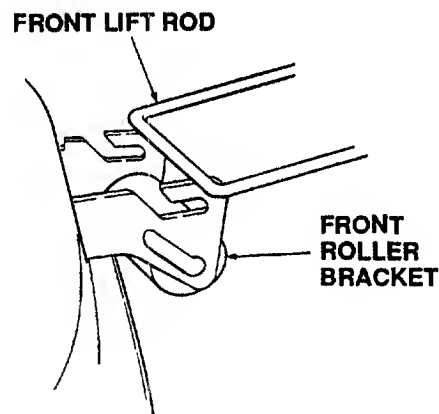

Figure 43
11. Hold the front lift rod upward and slide the mower deck rearward. Lower the front lift rod, so it rests to the front of, and free of, the front roller bracket slots of the deck (Refer to Figure 43).